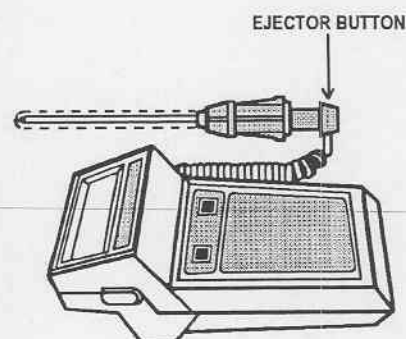

Figure 2-5. Probe.
- d. After the temperature measurement is complete, eject the probe cover by firmly pressing the eject button on the top of the probe (fig 2-5).